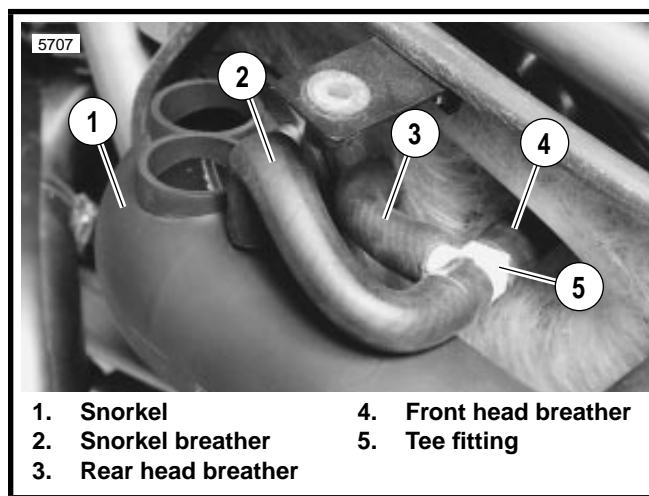

Figure 4-16. Breather Hoses
3. See Figure 4-16. Detach backplate hoses.
2. See Figure 4-16. Attach breather hoses.